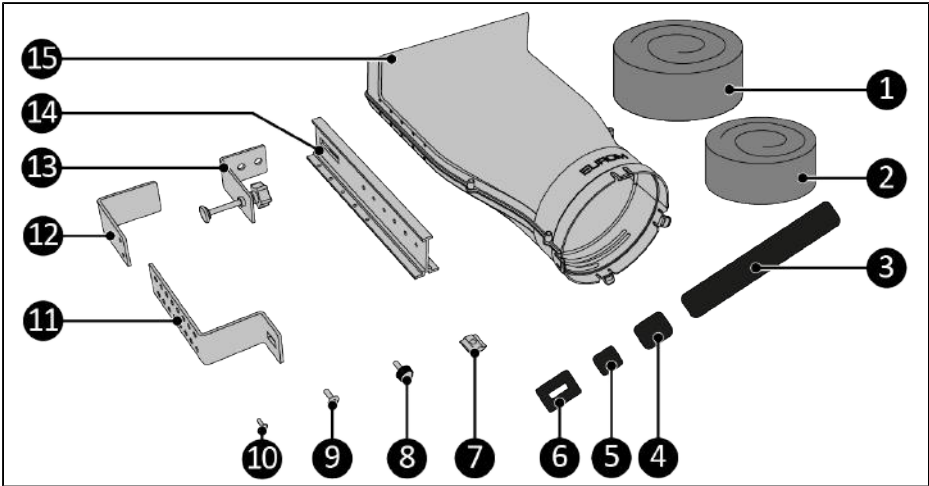

Figure 53.
1. Check whether all materials are present according to Figure 53.